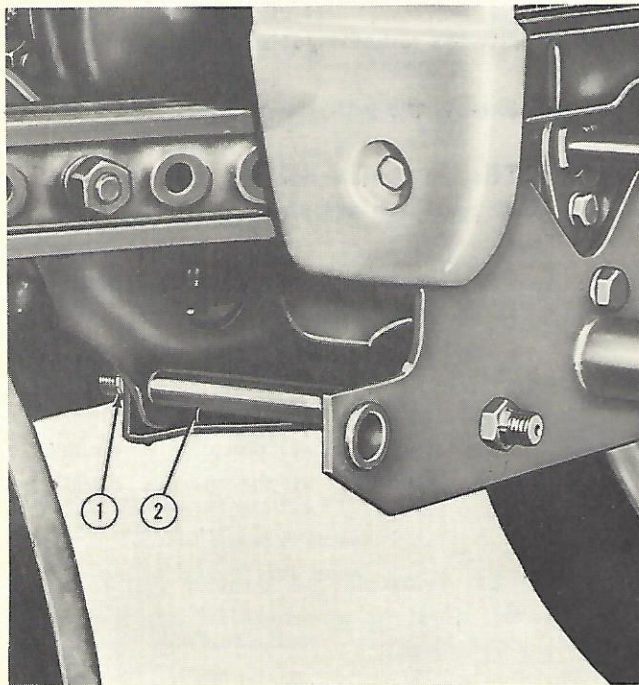

Figure 7
4. Insert the two $3/4'' \times 12-1/2''$ rods (2), Figure 7, through the holes provided in the engine support and install the $3/4''$ self-locking nuts (1).